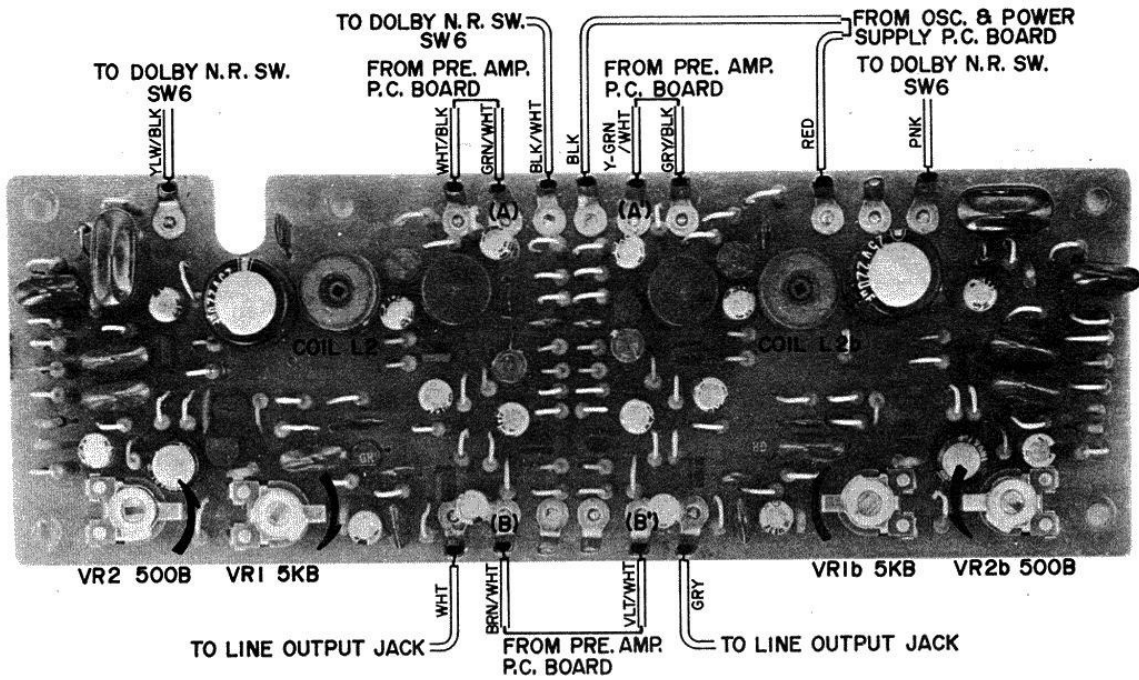

Fig. 18 DOLBY AMP. P.C. BOARD CG-5202 (Face Side)
- b) Turn Dolby N.R. Amp. P.C. Board Dolby Amp. Gain Adjustment Semi-fixed Resistors VR2 500 Ω (left ch.) VR2b 500 Ω (right ch.) and FET Gate Bias Adjustment Semi-fixed Resistors VR1 5 k Ω (left ch.) VR1b 5 k Ω (right ch.) as far as they will go in the direction of the arrows shown in Fig. 18.
- f) At this condition, further adjust the Attenuator so that the line output level at Point (A) shown in Fig. 18 is -28.5 dB. At this time, confirm that the level at Point (B) shown in Fig. 18 is $-28.5 + 0.5$ dB.
- g) Turn Dolby Switch SW6 to ON position. At this time, adjust Dolby Amp. Gain Adjustment Semi-fixed Resistors VR2 500 Ω (left ch.) VR3b 500 Ω (right ch.) until the voltage at Point (B) shown in Fig. 18 is increased by 10 dB.
- h) Disconnect ground from Test Point "TP" (FET Gate). At this time, adjust FET Gate Bias Adjustment Semi-fixed Resistors VR1 5 k Ω (left ch.) VR1b 5 k Ω (right ch.) so that the voltage at Point (B) shown in Fig. 18 is reduced by 2 dB.